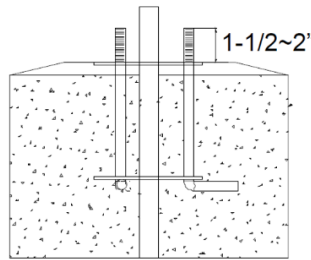

Fig 4
- Install the three anchor bolts into the concrete having at least 1-1/2" – 2" protruding from the concrete with the threads free and clear of debris and dirt. (Fig 4)